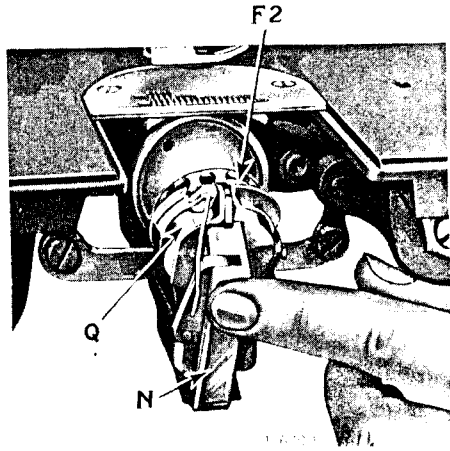

FIG. 13. REPLACING THE BOBBIN CASE
A drop of oil should be applied to the bobbin case bearing as shown at F2, in Fig. 13, page 10, each time a bobbin is replaced.
See that the needle bar is at its highest point. Place the bobbin case on the bobbin case position plate (Q, Fig. 13) with
the position finger opposite the notch at the top of the bobbin case, then push in the latch post (N) as shown in Fig. 13. Allow about two inches of thread to hang free and replace the slide in the bed of the machine.